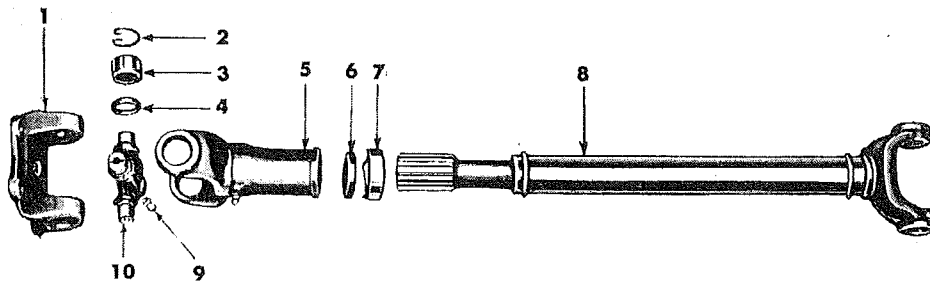

FIG. 125—PROPELLER SHAFT AND UNIVERSAL JOINTS
This joint is illustrated in Fig. 125. To remove the snap rings (2), pinch the ends together with a pair of pliers. If the rings do not readily snap out of the groove, tap the end of the bearing (3) lightly, which will relieve pressure against the